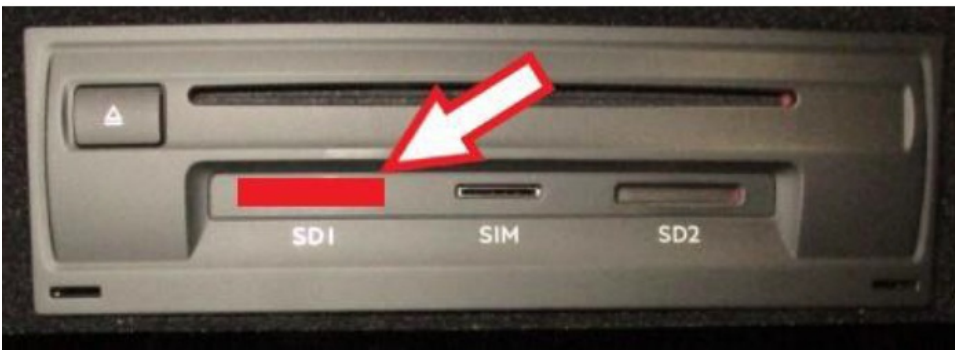

Figure 9
4. Insert the SD card into slot 1 of the 005F unit (as shown in figure 9)